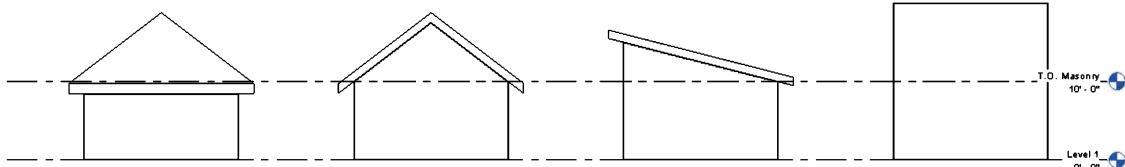

FIGURE 8-1.10 South elevation – shed roof
37. Switch to the **South** elevation view (Figure 8-1.10).